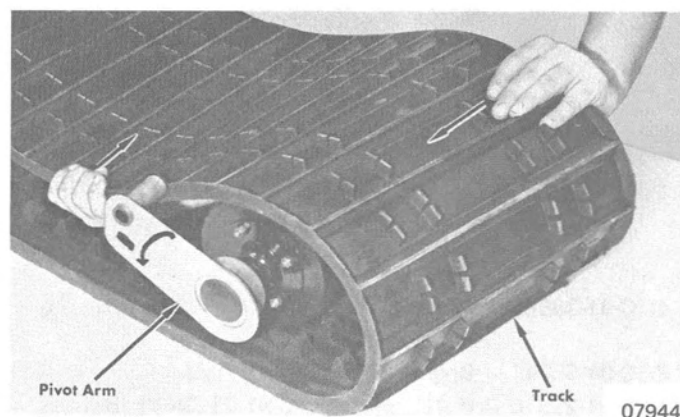

Figure 2. Removing Rear Axle from Track
7. Position left pivot arm as shown in Figure 2. While pulling track under with right hand and pushing over with left hand, pivot arm will swing past track. Right pivot arm must be positioned 180° opposite left pivot arm.